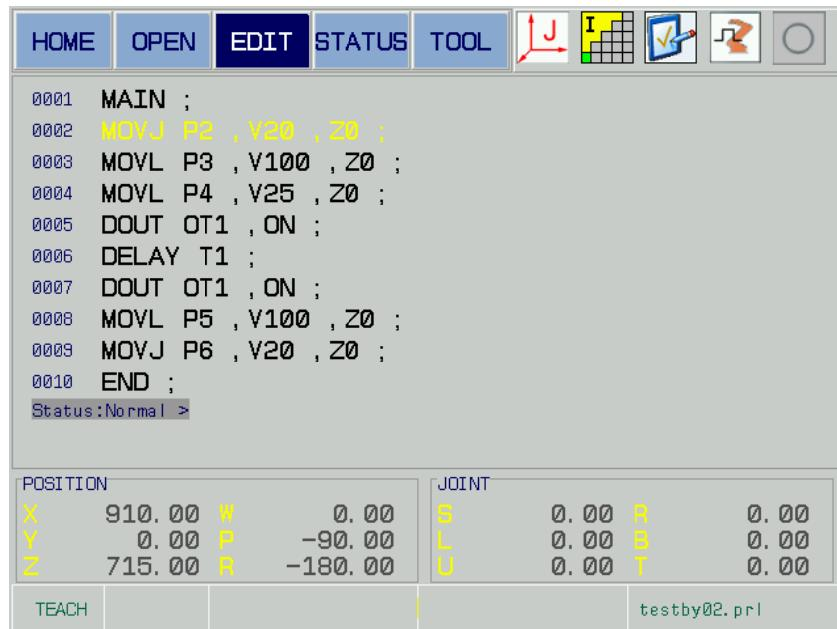

Fig. 5-37
4. If select [YES], the press the [SELECT], and then delete the current line; if select [NO], then cancel the DELETE operation; refer to the Fig. 5-37.